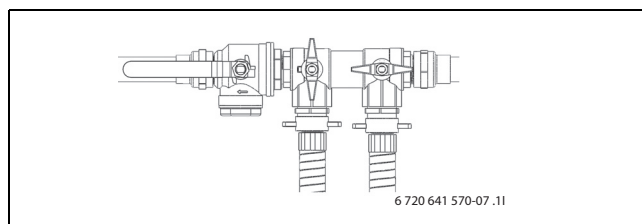

Fig. 26 Filling unit in pressure increase position
- ▶ The circuit must be pressurized when venting is complete. Turn the valves on the filling unit to pressure increase position and pressurize the circuit to 2.5 to 3 bar (→ Figure 26).